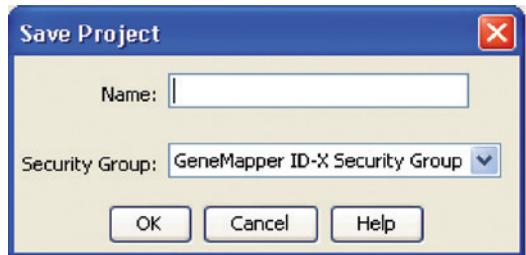

Figure 16. The Save Project window.
9. If all analysis requirements are met, the Save Project window will open (Figure 16).